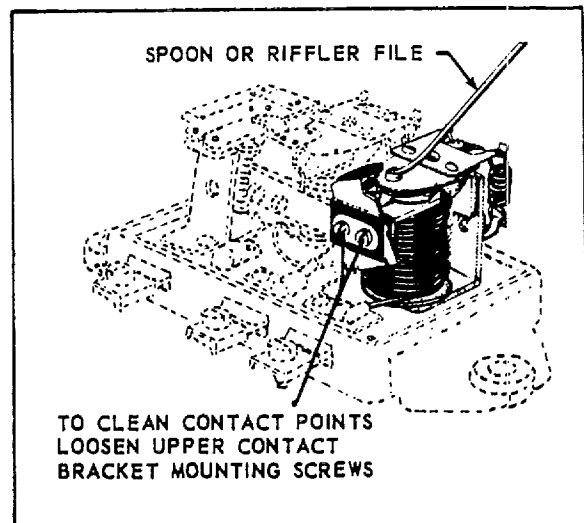

Figure 7-1A. Cleaning Voltage Regulator Points
(1) A low voltage (or current) regulator setting.
(2) Oxidized regulator contact points which insert excessive resistance into the generator field circuit so that output remains low.
(3) Generator field circuit open within the regulator at the connections or in the regulator winding.
**7-5E. CLEANING CONTACT POINTS.** The contact points of a regulator will not operate indefinitely without some attention. It has been found that a great majority of all regulator trouble can be corrected by cleaning the contact points, plus some possible readjustment. The flat points should be cleaned with a spoon or riffler file. Loosen the contact bracket mounting screws so that the bracket can be tilted to one side. (See figure 7-1A.) Never use emery cloth or sandpaper to clean the contact points. Remove all the oxides from the contact points.